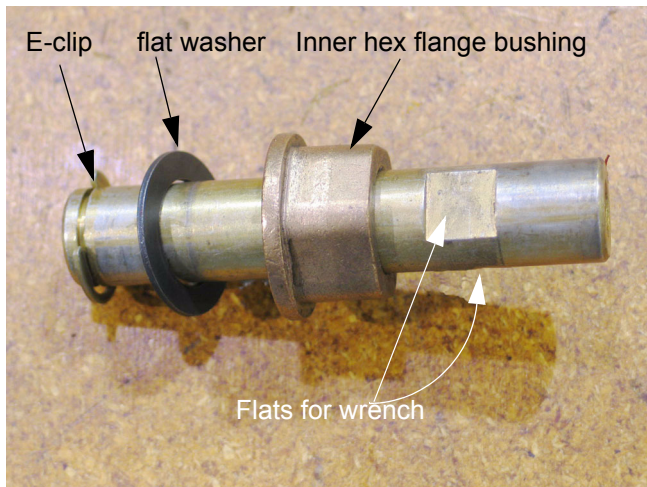

Figure 20.8
20.8. The steering pivot shaft.... See Figure 20.8.